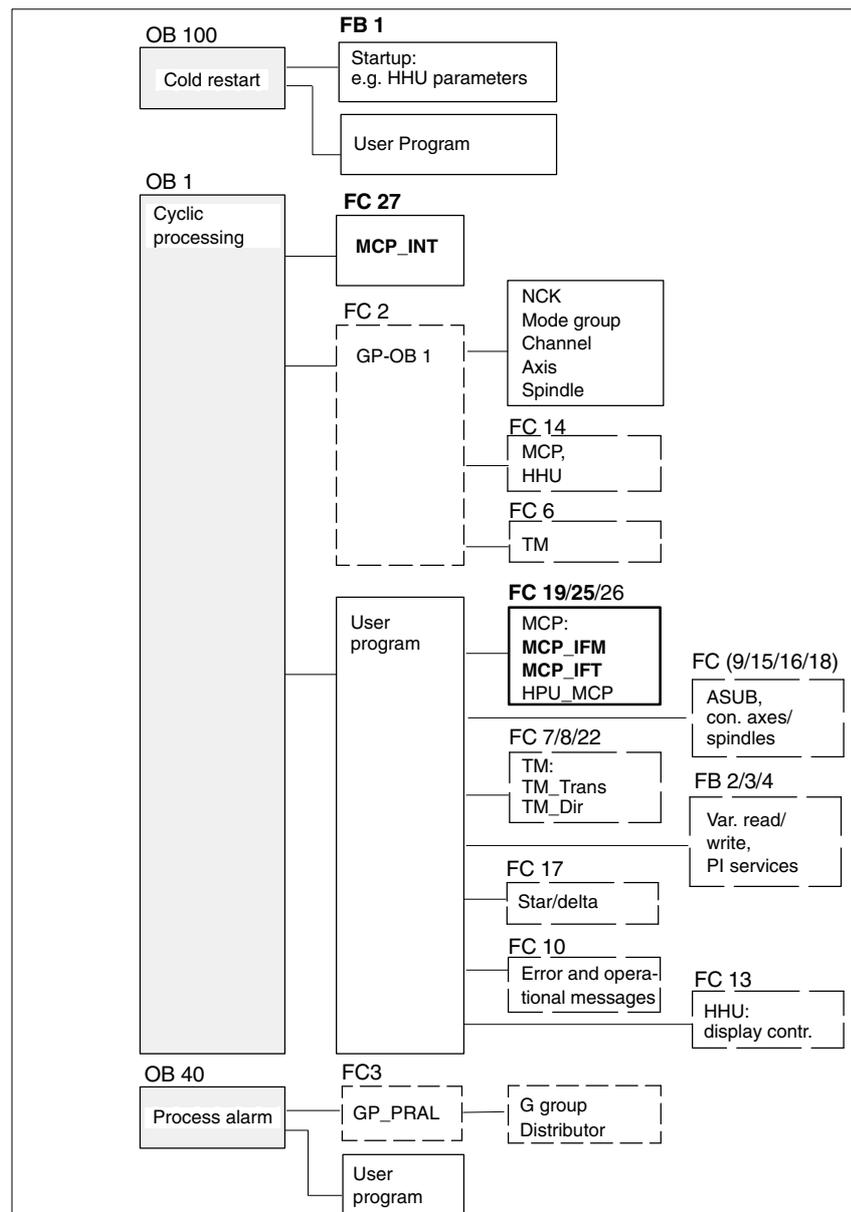

Fig. 7-10 Structure of the PLC program
The user (machine manufacturer) must call the appropriate section of the basic program in OBs 1, 40, and 100 (see Fig. 7-10).
5. Insert block FC 19 or FC 25 in cyclic part of the PLC program (see Fig. 7-10, Page 7-165).